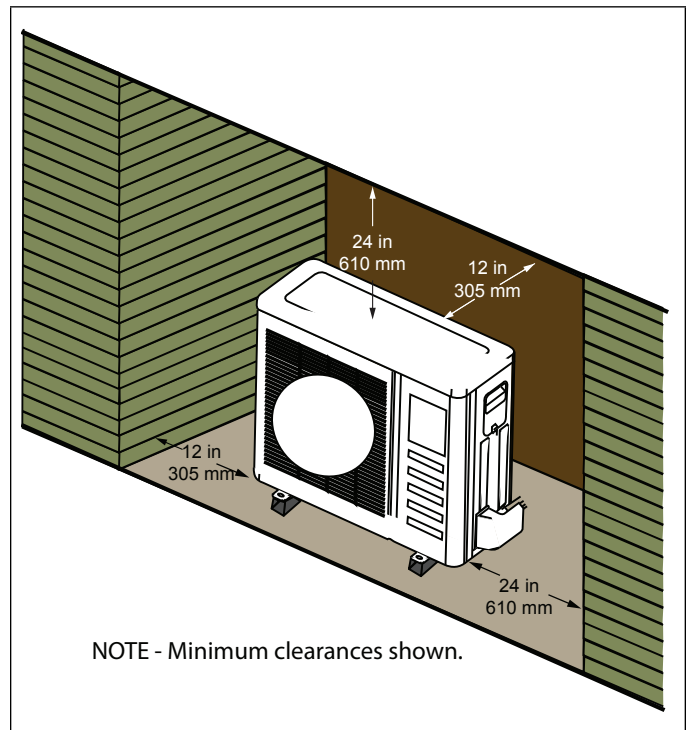

Figure 30. Unit installed in Alcove
- Outdoor unit can be installed in a alcove or under a roof overhang as illustrated in “Figure 30. Unit installed in Alcove”